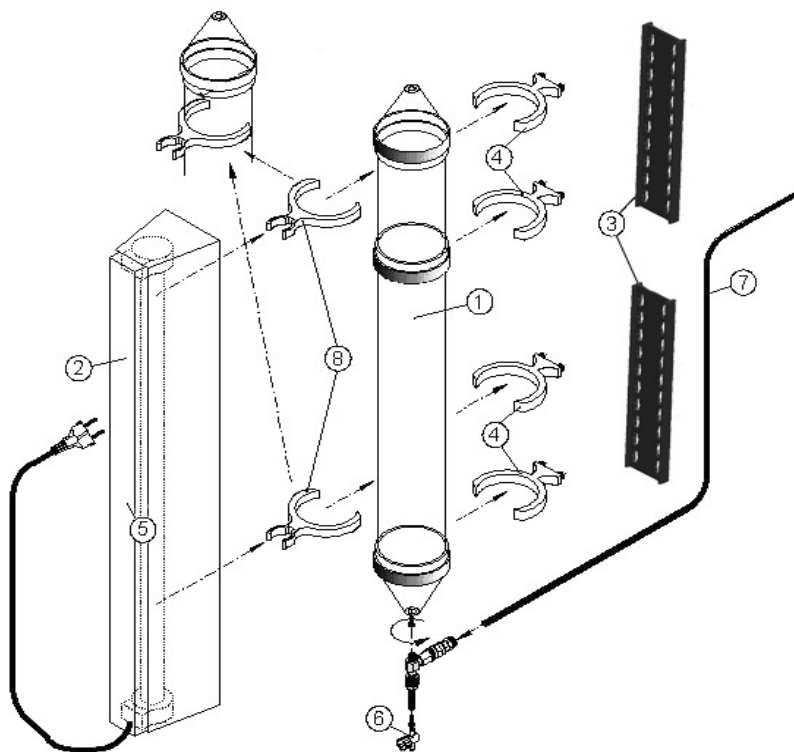

Fig. 1: plankton light reactor
9. 4 x vite e tassello (non Fig. 1.)